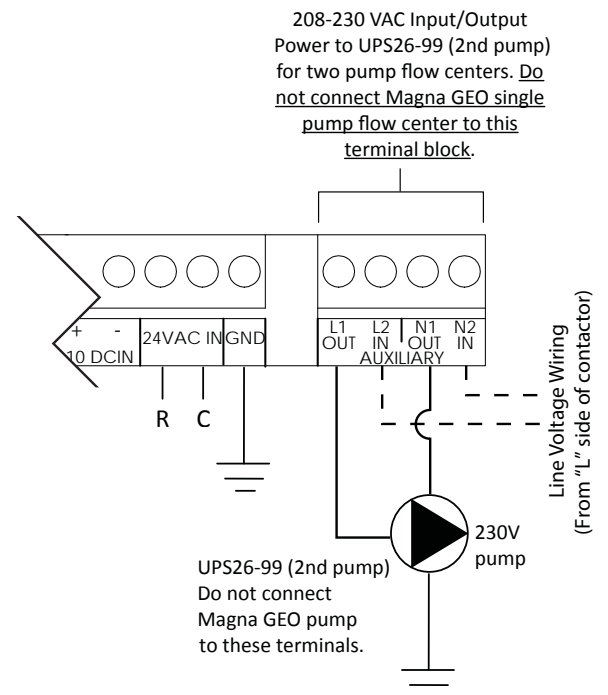

Figure 4: High Voltage to 2nd pump
- Complete high voltage wiring to second pump (if applicable). If a second pump is installed, the second pump must be wired to the Grundfos controller, so that the relay in the controller can engage/disengage the pump based upon heat pump operation (for example, first or second stage operation/flow rate). Refer to Figure 4 for wiring. Run high voltage wiring from the “L” side of the compressor contactor to the Grundfos controller terminals. Run wiring from the controller to the second pump. Wiring must meet applicable code requirements, including requirements for wire protection, such as conduit. Wire size must be at least 14 AWG copper conductor.